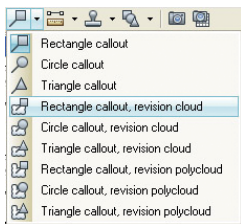

Figure 14
1. To create a revision cloud with comments, click on the Markup tool from the main toolbar. If the rectangular markup cloud is not displayed, click on the down arrow of the Markup tools and select it from the expanded list. (Figure 14)